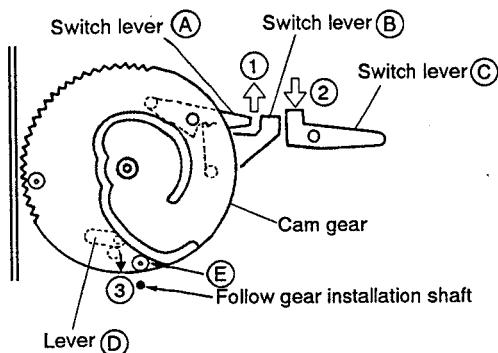

Fig. 11
- ② Move switch levers A and B (Fig.11) in the direction of arrow ① (SW is ON), switch lever C in the direction of arrow ② and lever D in the direction of arrow ③.
- ② Install the cam gear when the cam gear comes to the position as shown in Fig. 11.